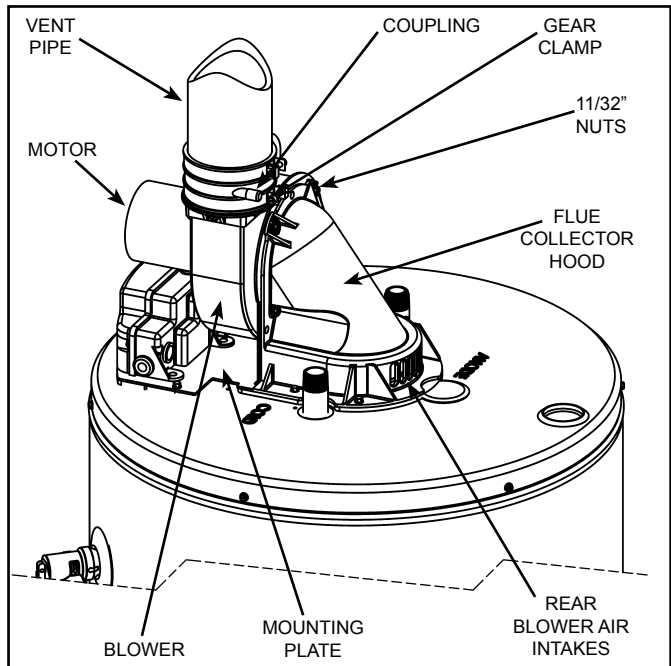

Figure 32
5. Remove and retain the (4) 11/32" nuts located on the back of the blower with the nutdriver (see Figure 32).
10. With all parts cleaned and the blower wheel turning freely, reinstall the blower to the mounting plate aligning the (4) studs and pushing tight against the mounting plate.
11. Reinstall the (4) 11/32" nuts and tighten securely. All (4) nuts must be in place and secure to safely operate the blower.